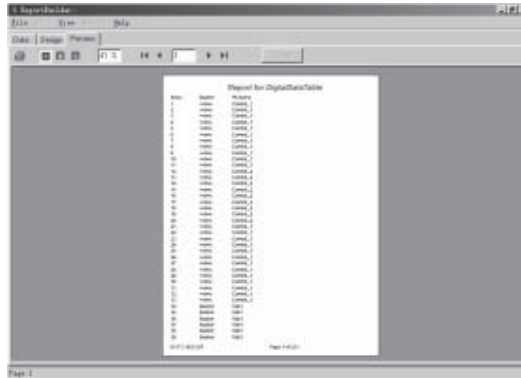

Fig. 8-15 Design the Body of the Report
3.3 Design the Body of the Report. For example, as in Fig. 8-15, set the fields such as ;°Index;±, ;°Station;±, ;°FtuName;±and so on.